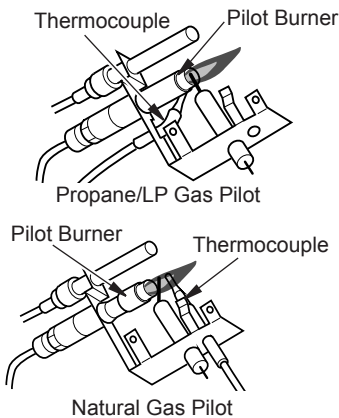
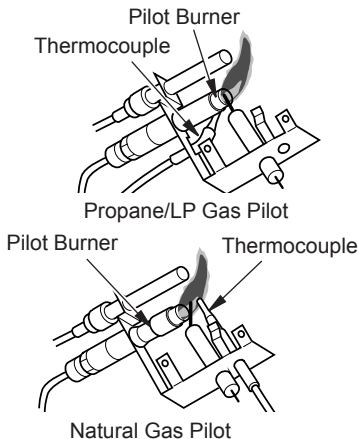

Figure 35 - Correct Pilot Flame Pattern
Figure 36 - Incorrect Pilot Flame Pattern
11. Press the up or down key until the small triangle is to the left of large flame icon at the top of LCD display (see Figure 36, page 22). Press the left or right key to set the desired flame height.
Figure 35 shows a correct pilot flame pattern. Figure 36 shows an incorrect pilot flame pattern. The incorrect pilot flame is not properly heating the thermocouple. When the thermocouple cools, the heater will shut down.
If pilot flame pattern is incorrect, as shown in Figure 36